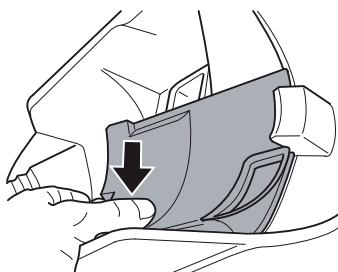

Fig. 31
11. Then engage the locking mechanism of the filter cover by pressing it (Fig. 31) until it audibly snaps into place.